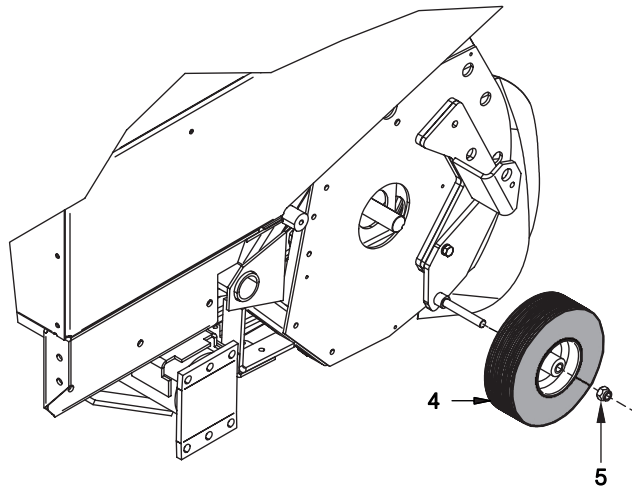

Figure 2-3-7 - Mounting Tire Assembly
B. Mount (1) Item 4 Tire Assembly on the bracket as shown in Figure 2-3-7. Secure with (1) Item 5 ESNA nut as shown. Torque all nuts and bolts as per torque chart on page 2-3-1.